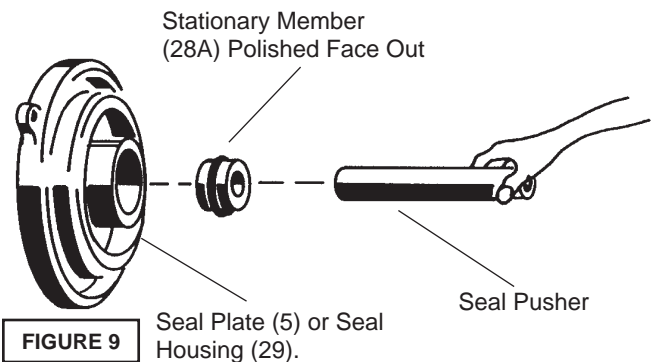
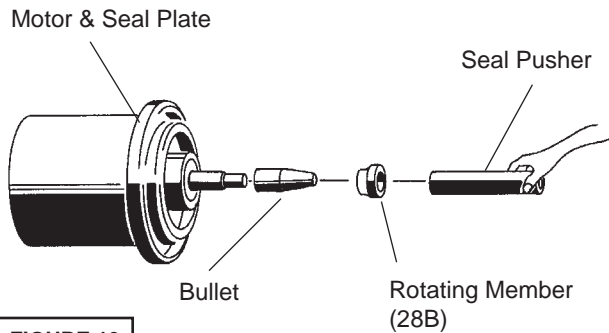

FIGURE 9
FIGURE 10
Inner Seal (DS Units Only) - Clean and oil seal cavities in seal plates (5, 29). Lightly oil (**DO NOT use grease**) outer surface of stationary member (28a). Press stationary member (28a) firmly into inner seal plate (5), using a seal pusher. Nothing but the seal pusher is to come in contact with seal face (see Figure 9)
Make sure the stationary member is in straight. Slide a bullet over motor shaft. Lightly oil (**DO NOT use grease**) shaft, bullet and inner surface of bellows on rotating member (28b) see Figure 10. With lapped surface of rotating member (28b) facing inward toward stationary member, slide rotating member over bullet and onto shaft, using seal pusher, until lapped faces of (28a) and (28b) are together (see Figure 9).